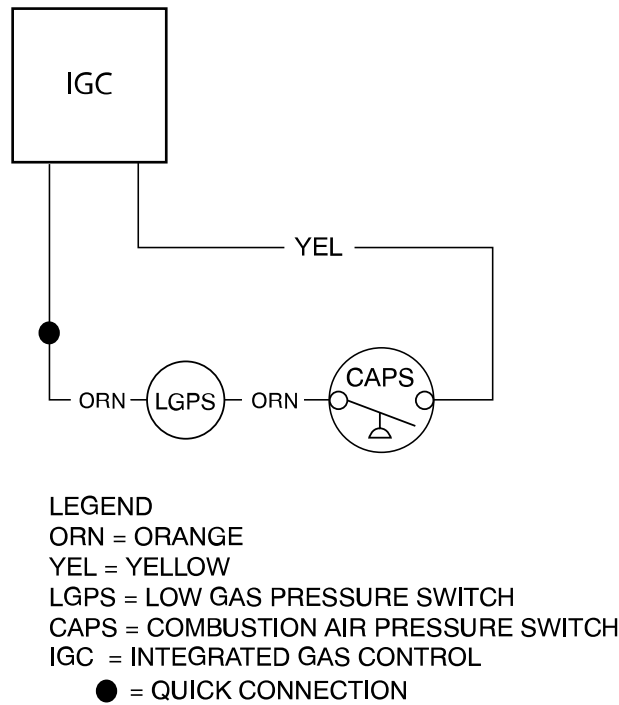

Fig. 11 – Removing Low Gas Pressure Switch Wiring
8. Disconnect low gas pressure switch (see Fig. 11).